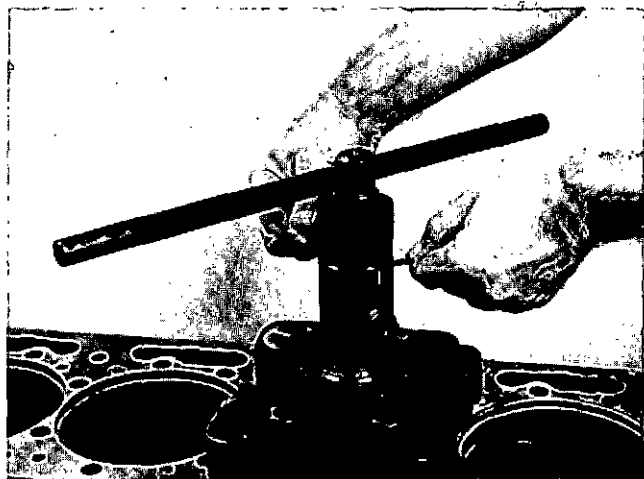

Fig. 1-15. Set The Depth Of The Cut.
- Put a feeler gauge of the same thickness as the material to be cut from the counterbore between the body of the drive assembly and adjusting collar, Fig. 1-15.